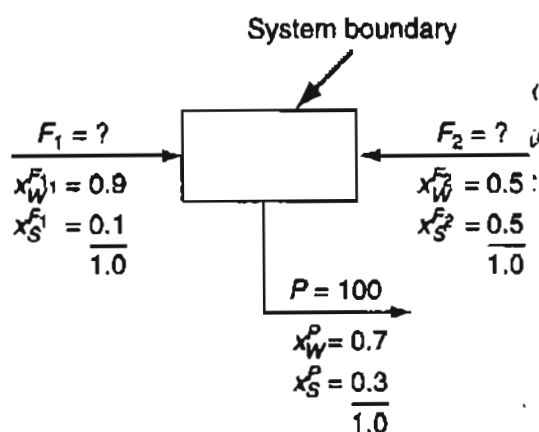

Figure 24.1 Simple mixing process.
We can illustrate the degree-of-freedom analysis via a simple problem. Suppose water (W) and sucrose (S) of one concentration are mixed with W and S of another concentration to produce a sucrose solution (P) of a third concentration. Figure 24.1 shows the open, steady-state system, the flows F_i , and the concentrations x_i with the units suppressed.
Now, suppose the energy balance simplifies to $\Delta H = Q$, and you are asked to solve for Q . We will change \hat{H}^P to be 275 to allow for $Q \neq 0$. Then you would have two independent material balance equations, the ones associated with Figure 24.1, plus one energy balance to solve for three unknowns, F_1 , F_2 , and Q , so that the degrees of freedom are still zero. Solve the material balances first for F_1 and F_2 , and then solve the energy balance for Q